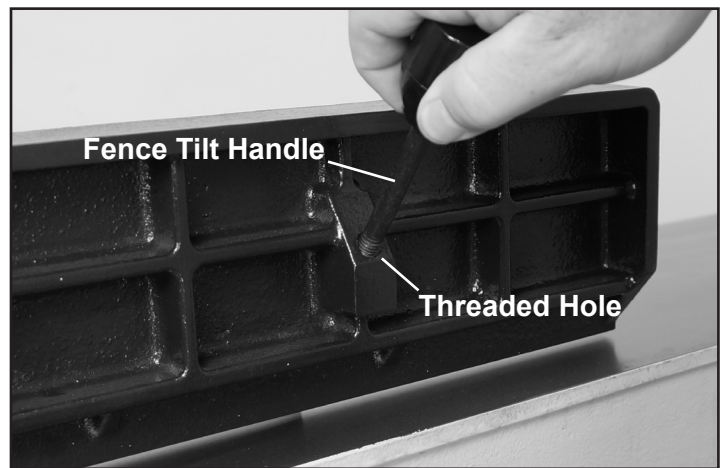

FIG. 10
5. Thread the Fence Tilt Handle on the rear of the Fence. FIG. 10.